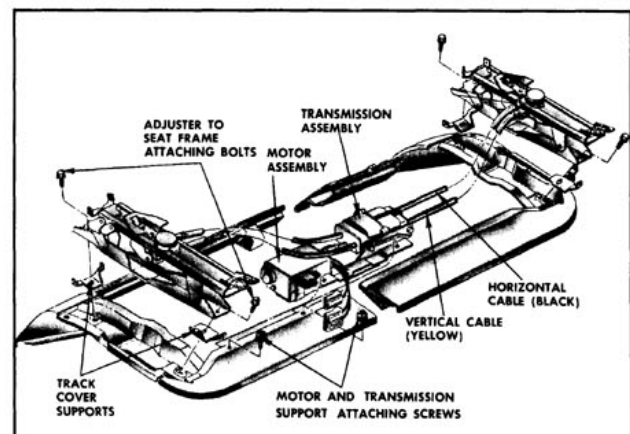

Fig. 16-92 Four-Way Tilt Seat Assembly
The seat adjusters are actuated by a 12-volt reversible, shunt wound motor with a built-in circuit breaker. The motor is installed at the left side of the seat assembly. (Fig. 16-92) The seat motor is energized by a toggle-type control switch installed in the left seat side panel.
2. Remove front seat assembly from body with attached adjusters, motor and transmission and place upside down on a clean protected surface. (Fig. 16-92)
4. Remove adjuster-to-seat bottom frame front and rear attaching bolts and remove adjuster from seat assembly. (Fig. 16-92)
5. To install seat adjuster assembly, reverse removal procedure. Black cable attaches to horizontal actuator. (Fig. 16-92)
2. Remove seat adjuster-to-seat bottom frame front and rear attaching bolts on side affected. (Fig. 16-92)
3. Remove screws securing motor and transmission support to seat bottom frame. (Fig. 16-92)